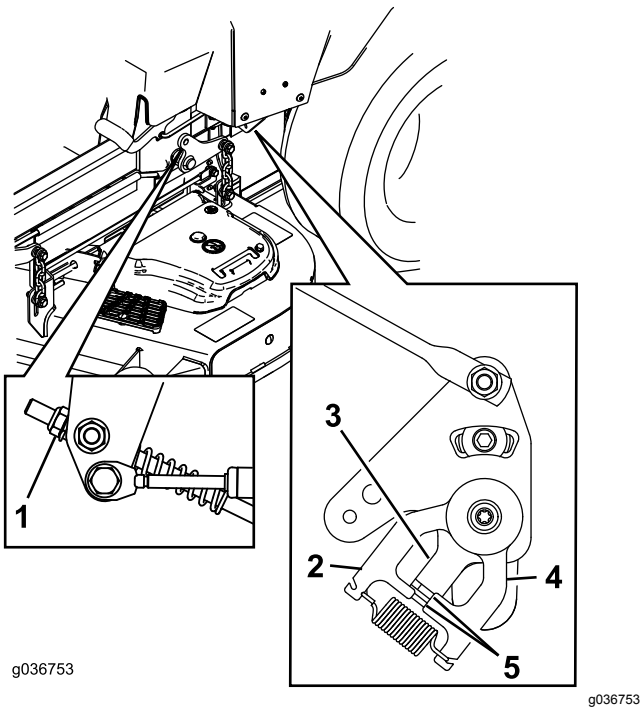

Figure 71
11. Adjust the pump-control-rod lengths by turning the nut in the appropriate direction until the wheels slightly creep in reverse (see Figure 71).